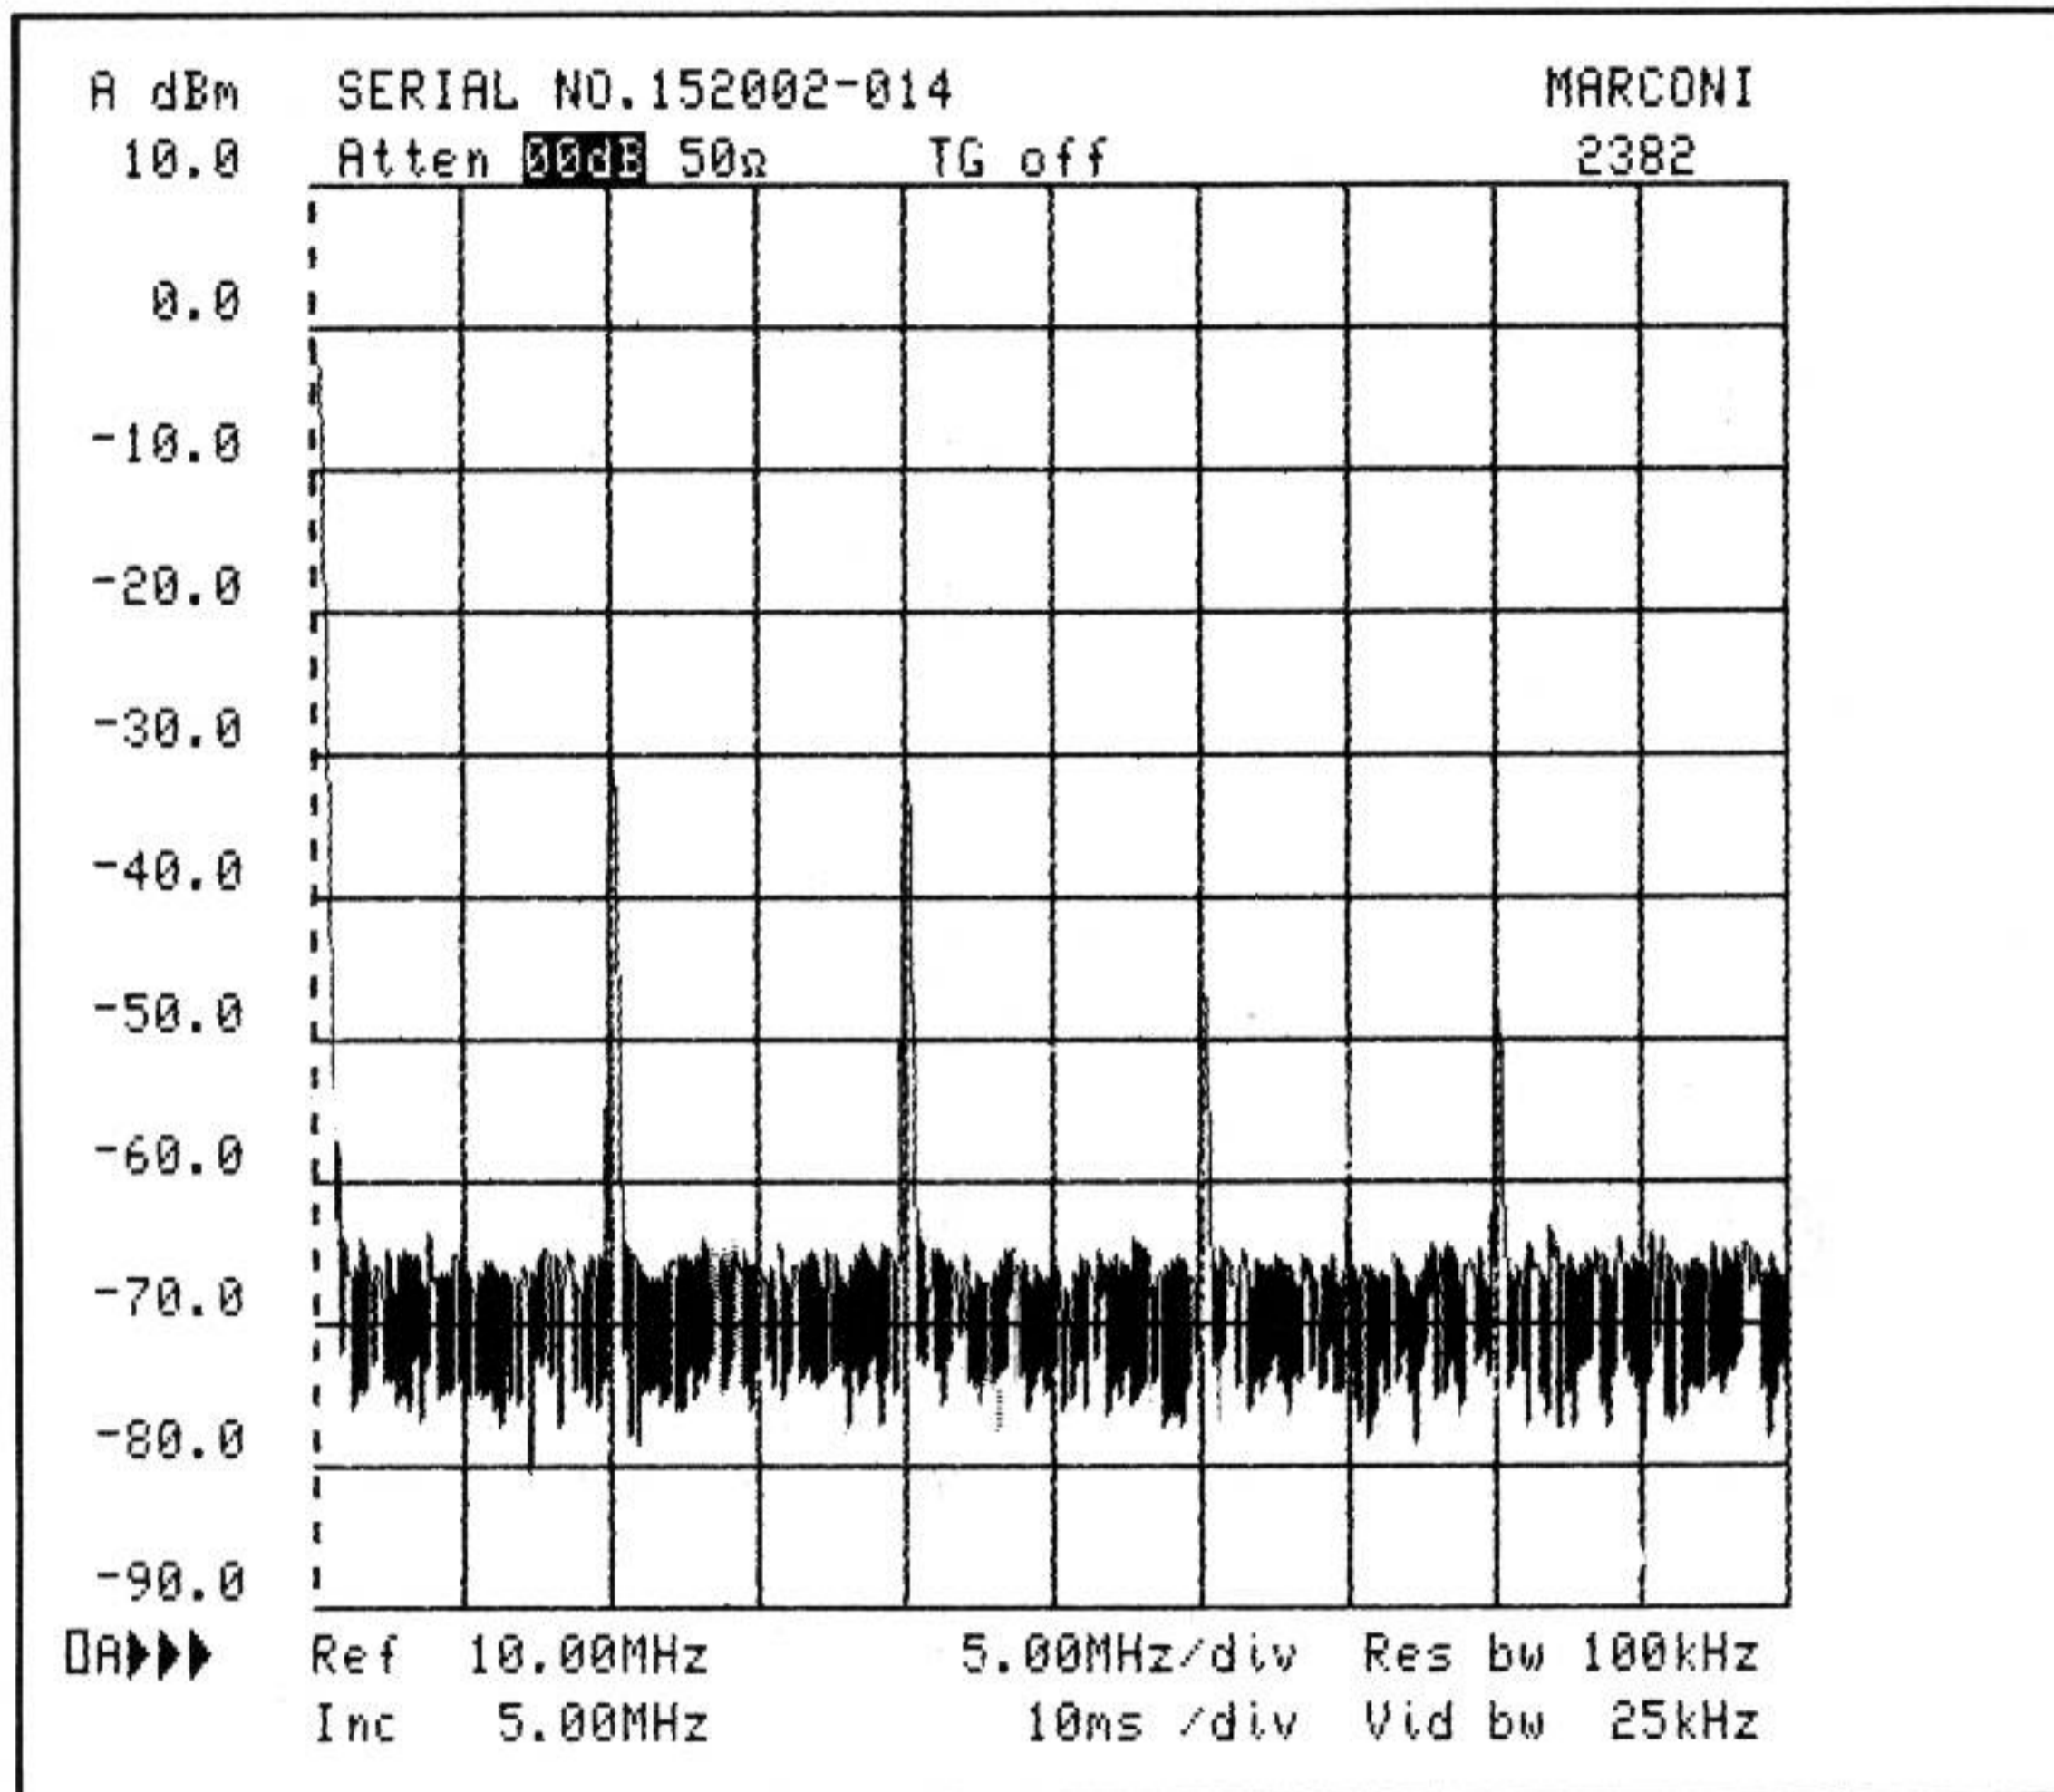

Fig. 20 Internally generated distortion products
94. Note the 20 MHz and 30 MHz distortion products (Fig. 20). Setting the INTMD IDENT key repeatedly ON and OFF confirms these signals to be internally generated as their amplitude decreases and increases under these conditions. The amplitude of the fundamental remains almost unchanged. High level input